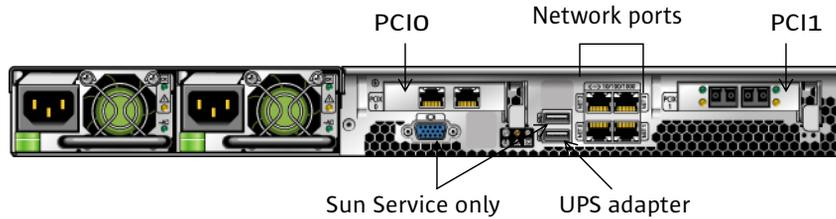

FIGURE 1-2 Sun StorageTek 5220 NAS Appliance With Single HBA Card, Back
- FIGURE 1-2 Sun StorageTek 5220 NAS Appliance With Single HBA Card, Back 4
FIGURE 1-2 shows the back of the appliance. The appliance contains a dual-port fibre channel (F C) host bus adapter (HBA) card in PCI slot 1. The other slot, PCI slot 0, can be empty or contain one of the optional cards, listed in “Appliance Options” on page 4.